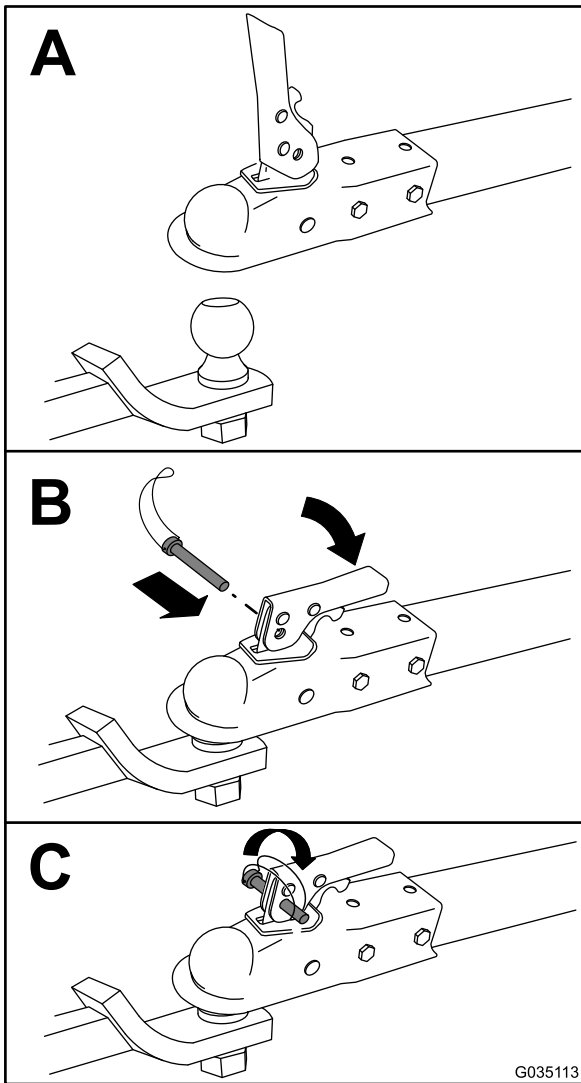

Figure 15
7. Hitch the machine as shown in Figure 15.